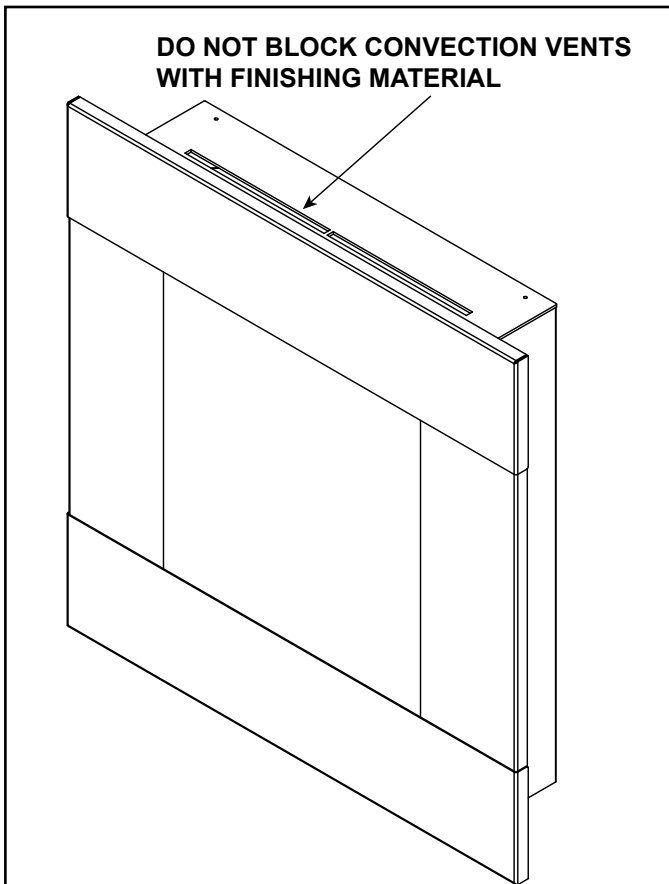

Figure 10.1 Convection Vent Location
- Facing and/or finishing materials must not interfere with convection vents, operation of doors, or access for service. See Figure 10.1 and Figure 10.3.